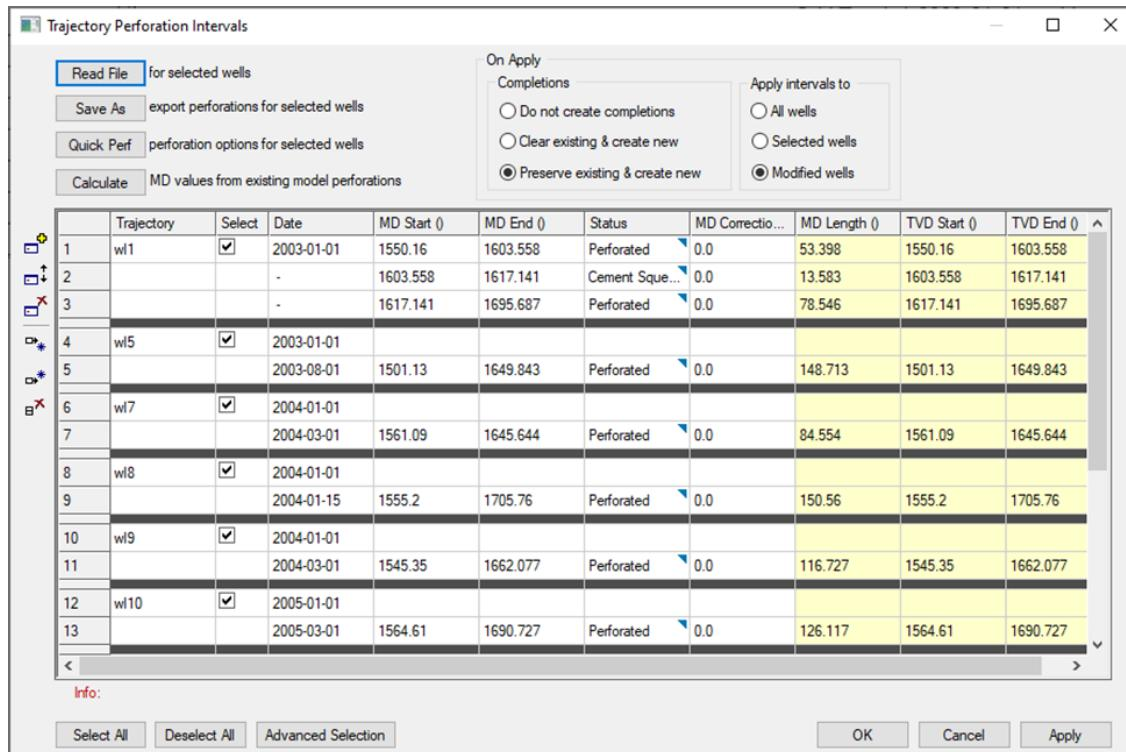

Figure 16: Trajectory perforations window after reading perforation file
49. If this is done correctly, the window will be like the one shown in Figure 16.